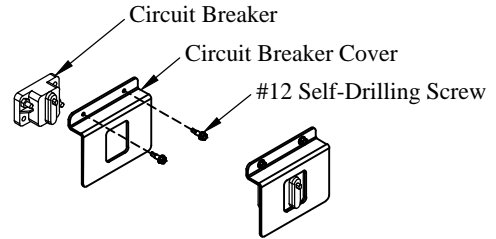

Figure 18: Circuit breaker cover.
- 13. **Install** the plastic circuit breaker cover over the circuit breaker using the supplied #12 self-drilling screws (Figure 18).